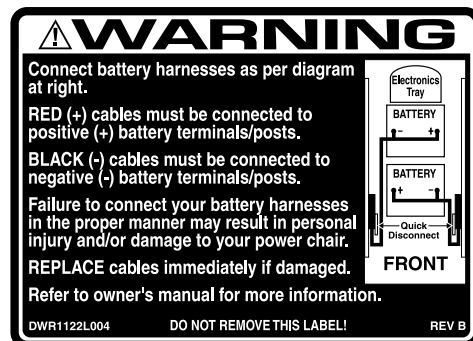

Figure 27. Battery Wiring Diagram Label
A diagram is printed on a decal located on the power chair frame near the battery tray. See figure 27. See the specification table for correct battery specifications.
10. Connect the battery quick disconnects according to the battery wiring diagram label. See figure 27.